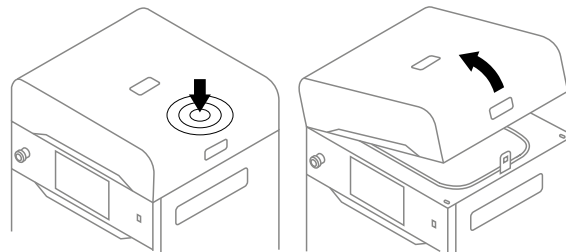

Fig. 6.4 Lifting the printer lid.
2. Push on the lid and pull it up using the lid handle (fig. 6.4).